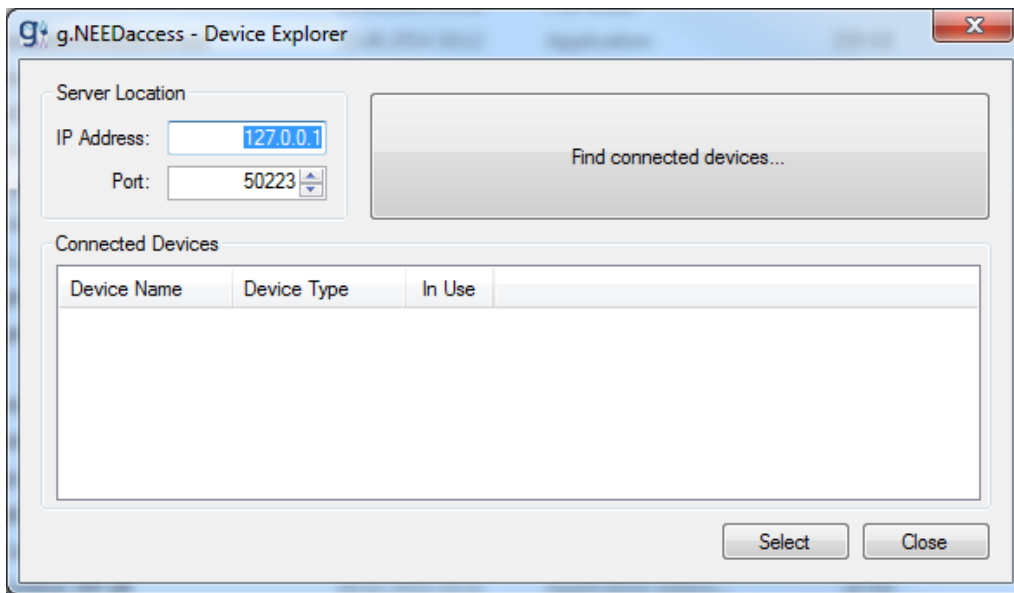

Figure 14: g.NEEDaccess Demo Client application starts up with the device explorer window.
g.NEEDaccess Server comes with an application for basic testing of the installation – the g.NEEDaccess Demo Client. Run it from the start menu or from the desktop at the client machine to launch the device explorer as shown in *Figure 14*.